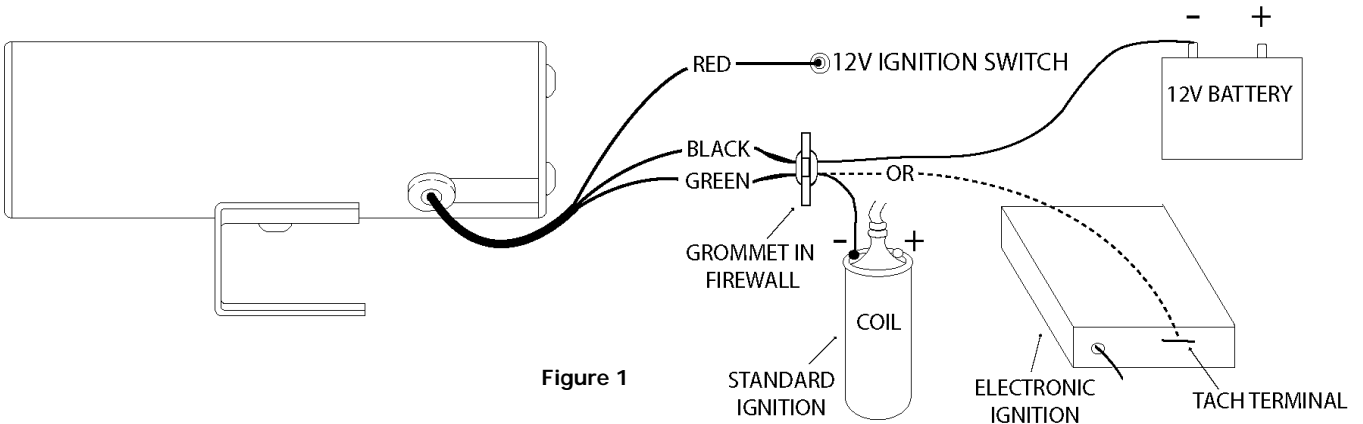

Figure 1
**SHIFT-LIGHT WIRING (Figure 1):**